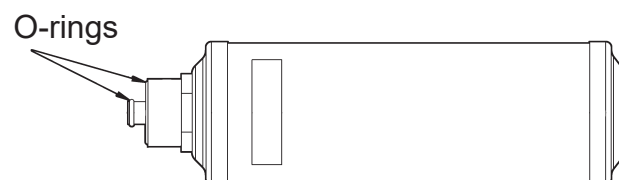

Figure 1-5. O-ring Location
5. Look at the new filter. Verify both O-rings are lubricated and correctly located in the grooves as shown in Figure 1-5.